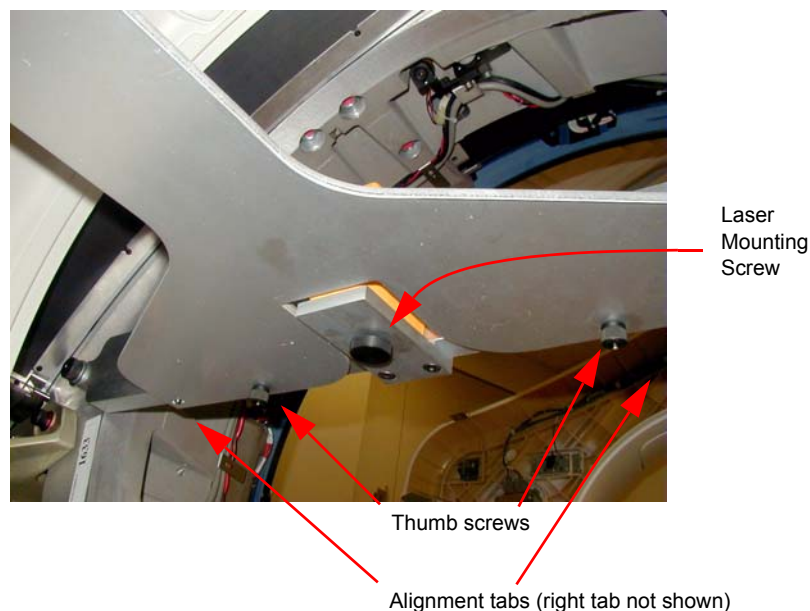

Figure 1-18 Attach Laser Center Plate
- 3.) Attach the laser centering plate onto the laser mounting bar as shown in Figure 1-18. The plate is attached from under the alignment bar using two fixed locators and two thumb screws.